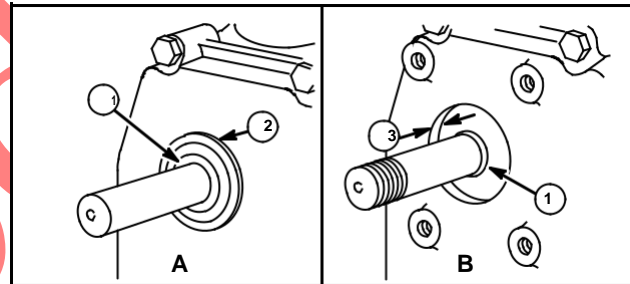

Fig. 19
Most oil seals are pressed in (Illustration A), flush with the hub (2). However, Model Series 60000, 80000, 100000 and 130000 using a ball bearing with mounting flange have the seal pressed in (Illustration B), $\frac{3}{16}$ " (4.75 mm) below crankcase mounting flange (3), Fig. 19.